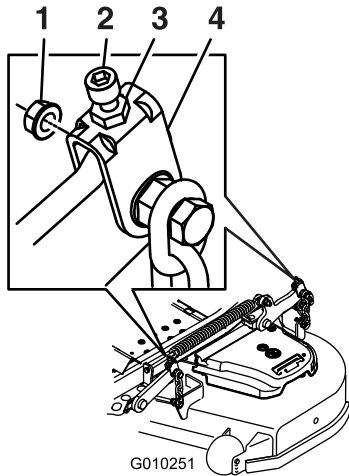

Figure 91
- 11. For mower decks shown in Figure 91, fine-tune the adjustment nut on the front deck lift assembly by turning it (Figure 91).
17. Fine tune the screw adjuster by turning it to get 8.3 mm (3-1/4 inches) height (Figure 91).